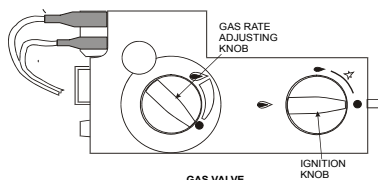

Figure 14
2. With the gas available at the valve press in the IGNITION KNOB and turn it anticlockwise to the pilot flame position (see **Figure 14**). A click of the piezo igniter will be heard and a spark will appear at the electrode. At the same time the gas will flow to the pilot burner and will be ignited by the spark. Repeat the procedure until the pilot flame is established.